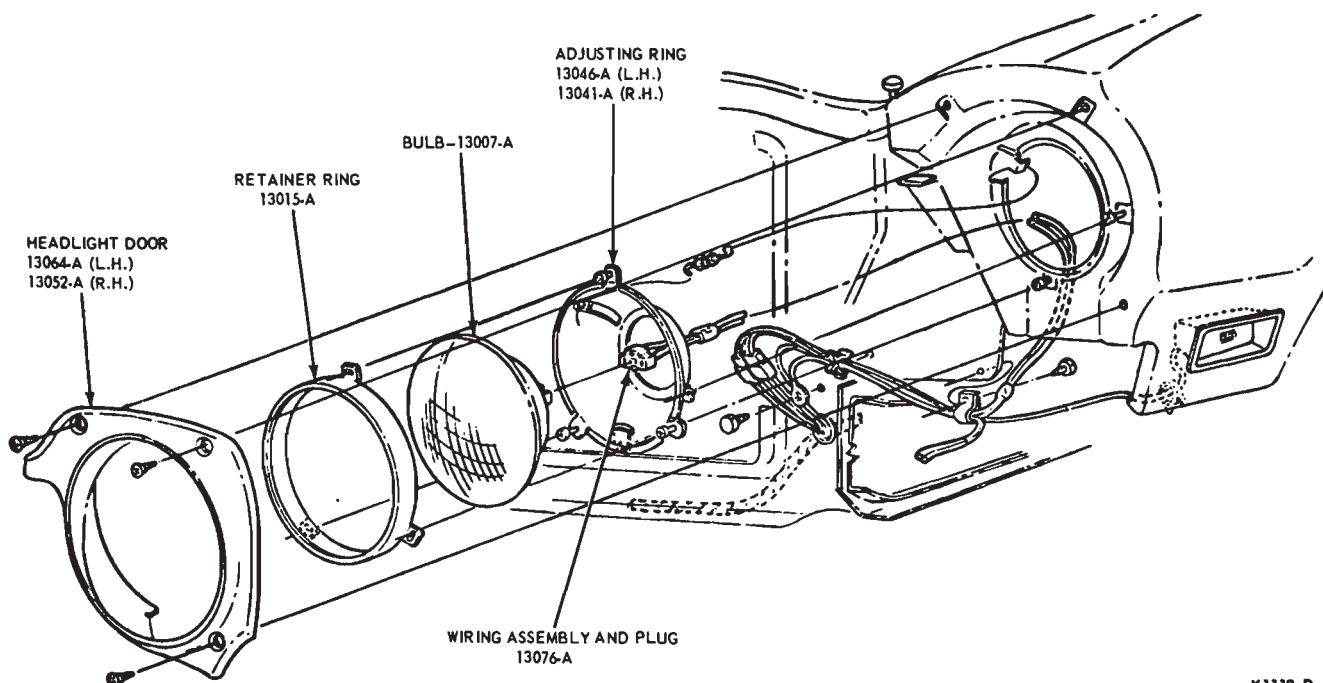

FIG. 5—Maverick Headlight Installation
3. On Maverick vehicles, loosen but do not remove the three screws that hold the bulb retainer ring to the adjusting ring (Fig. 5). Rotate the retainer ring so as to disengage the ring from the screws.